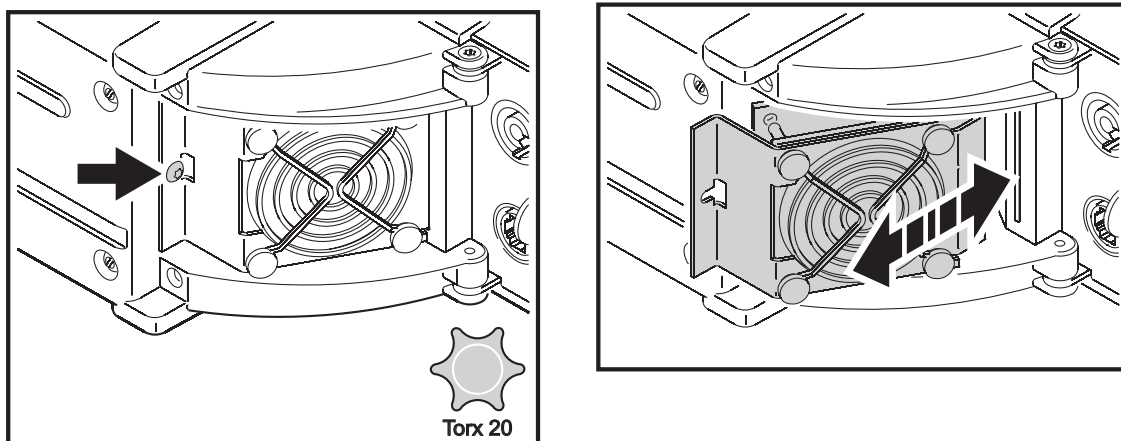

Figure 3: Cooling fan removal
5. See Figure 3. If a cooling fan or grille requires more thorough cleaning, loosen the fan assembly retaining screw (arrowed) slightly and slide the assembly out of the end cap for access. Do not strain the wires to the fan. Brush dirt from the fan blades with a soft brush, preferably in conjunction with a vacuum cleaner.